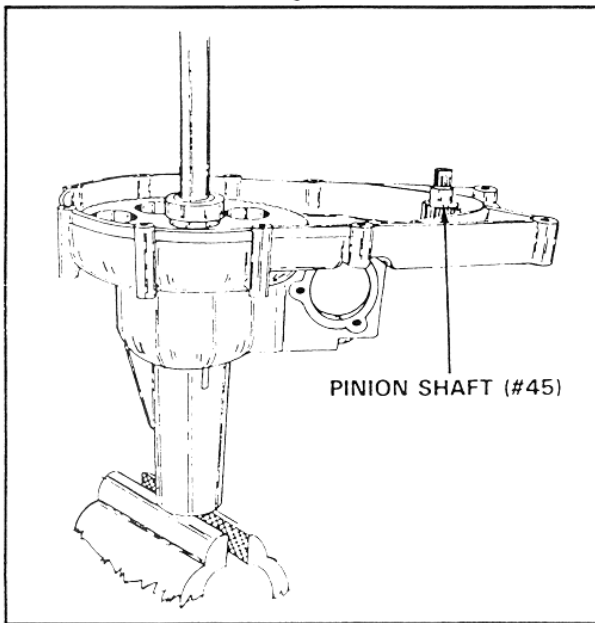

FIGURE 16
8.00 Slide one washer (#6) on axle shaft (#4) (Ref: differential housing side) then slide differential/axle assembly into right hand housing (#2) (Housing on which brake is mounted). Clamp axle (#4) gently in vise as shown in figure 16.
- 8.01 Insert keyed end of pinion shaft (#45) into bearing. See figure 16.